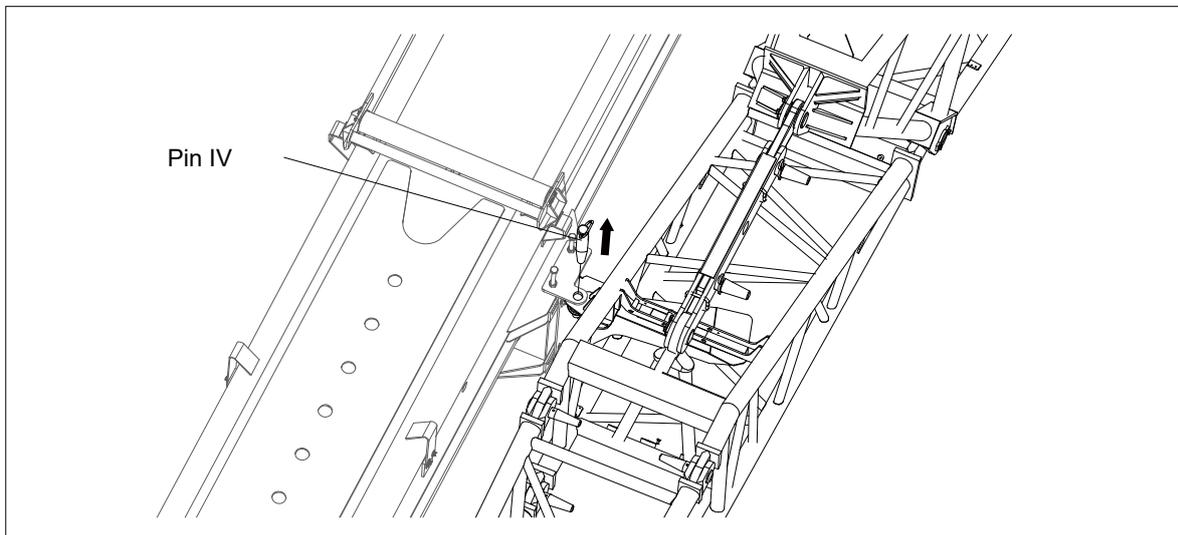

Figure 5-8 Pin IV removal
- g) Remove the pin IV. See Figure 5-8.